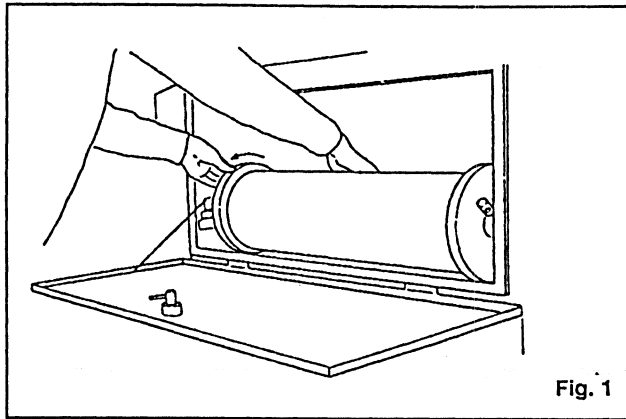

Fig. 1
- ⑨ Rewind the spool 5 to 10 mm (1/4" to 1/2") while lightly pressing the center of the master with your finger. (See Fig. 1)
- ⑩ Set the nip roller release handle to lock (  ).
- ⑪ Stretch the master, and check that it is straight, and not slack.
- ⑫ Close the master loading section cover.
- ⑬ Input the master width on the control panel.